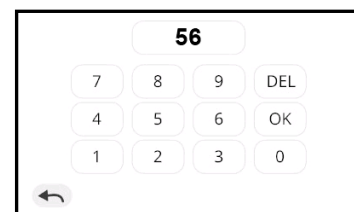

Figure 3. Keypad
- *SLED ON/OFF button (2)*:
- *Keypad (3)*: by clicking on the number, a keypad will appear (**Figure 3**). A percentage 0%-100% can be introduced by using it. You can erase a digit by pressing 'DEL'. Press 'OK' to confirm the percentage. If the value introduced is higher than 100%, it will be replaced by the previous valid percentage.